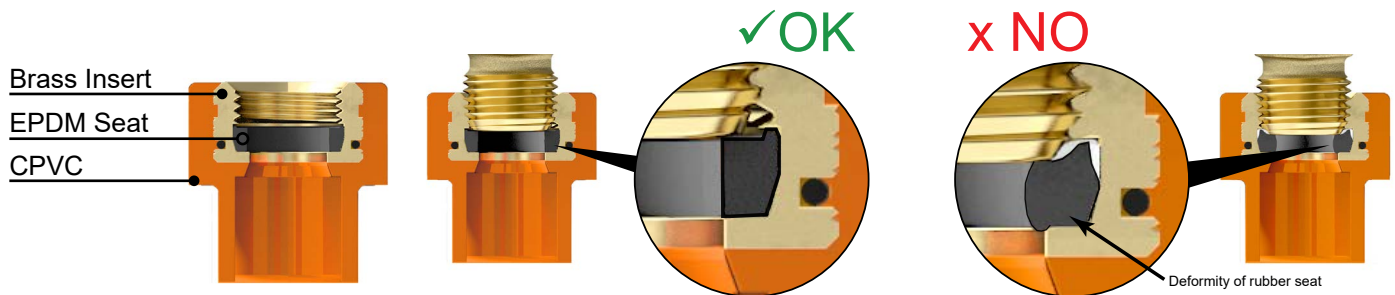

Figure 1: Sprinkler Contact on Rubber Seat
After seating the sprinkler, use the sprinkler manufacturer's recommended wrench to turn the sprinkler clockwise (CW) a minimum of one half ($\frac{1}{2}$) turn for seal. If sprinkler frame arms require alignment with pipe, continue to rotate CW to align, up to the maximum of $1\frac{1}{4}$ turns from initial seat to sprinkler contact as stated and as shown in Figure 1.
Do not tighten more than $1\frac{1}{4}$ turns from initial sprinkler touch to rubber seat. Over-tightening will cause the rubber seat to protrude into the waterway and reduce the K-factor which impedes flow. Additionally, permanent damage to the rubber seat will occur leading to failure and leakage. Refer to Figure 1.